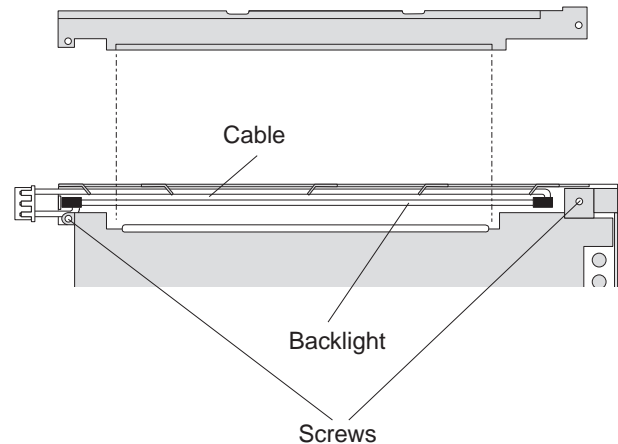

Figure 3-8. Removing the Color Backlight
- 15 Install the new backlight with the cable routed underneath the tabs as shown in Figure 3-8.